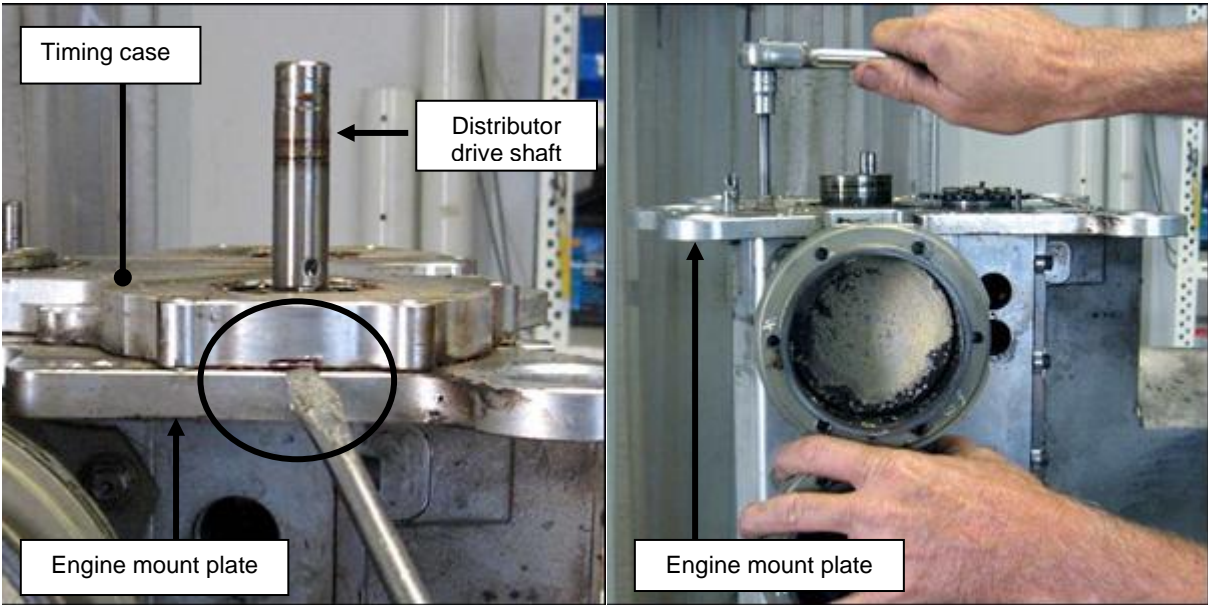

Figure 50 – Remove Timing Gearbox Case
- Remove the cap screws from the timing case and remove the case from the engine mount plate – there are machined recesses in each side of the timing case, as shown circled in Figure 50, that are designed to allow a screwdriver tip to be inserted and twisted to break the gasket seal and free the timing case. A soft hammer may be used to help.